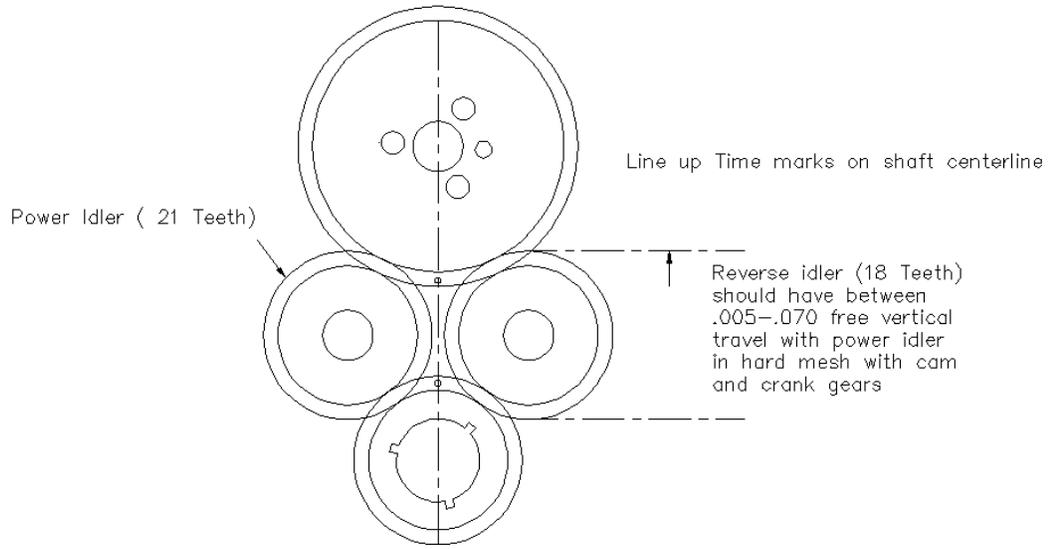

Figure 1
3. The engine is timed with the timing marks facing one another just as you would with a chain and sprocket drive.(Refer to Figure 1)
4. Align the timing marks as shown in Figure 1.